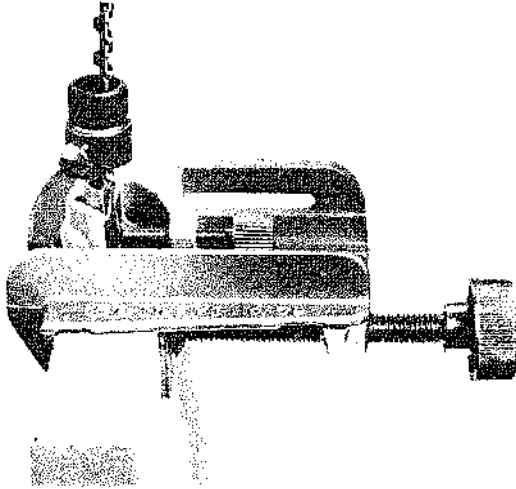

Fig. 10-46 Boring with a doweling jig.
7. Refer to figure 10-46. Place the bit into the guide using care not to strike the cutting edges of the bit against the guide. Rest the tip of the feedscrew lightly on the side of the board.